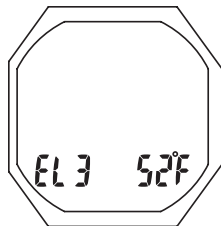

Fig. 10 - WATCH ALT 2
**Alt 2**, information includes (Fig. 10):